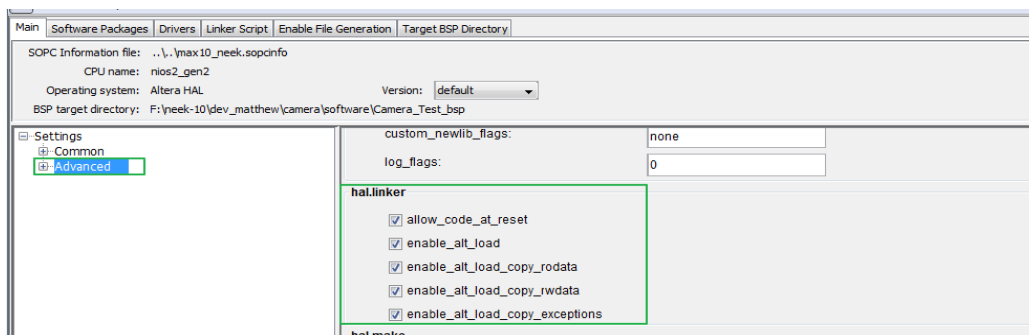

Figure 7-10 BSP Advance Setting
- In the **BSP Editor (Nios II SBT for Eclipse) utility** of the Eclipse, all the check box in the hal.linker table should be checked as shown in **Figure 7-10**.